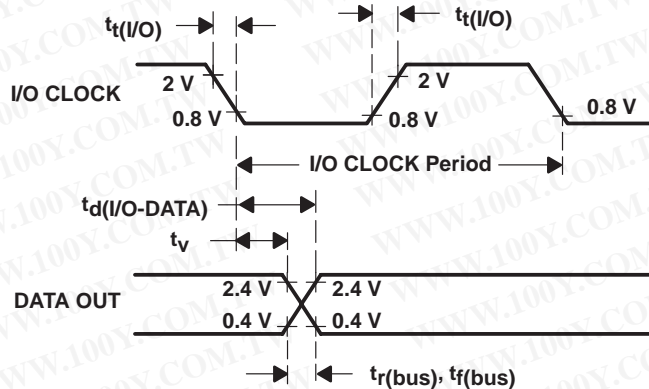

Figure 5. I/O CLOCK and DATA OUT Voltage Waveforms
- I/O CLOCK period = 1/(I/O CLOCK frequency). Sampling begins on the falling edge of the third I/O CLOCK, continues for seven I/O CLOCK periods, and ends on the falling edge of the tenth I/O CLOCK (see Figure 5).